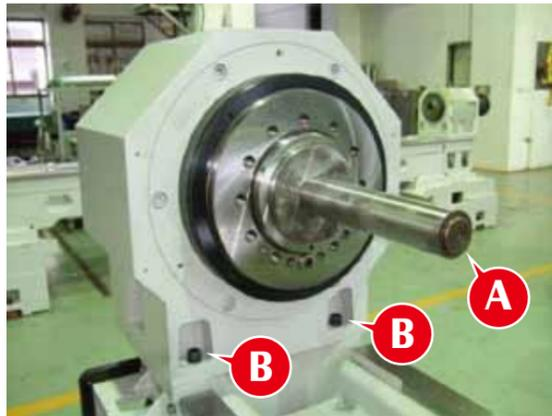

Fig.1
1) Use a 300mm test bar for spindle alignment (see A in Fig. 1) and loosen all the fixing screws (for example, see B in Fig. 1) of the headstock.
8) Tighten all the fixing screws (see B in Fig. 1) of the headstock.